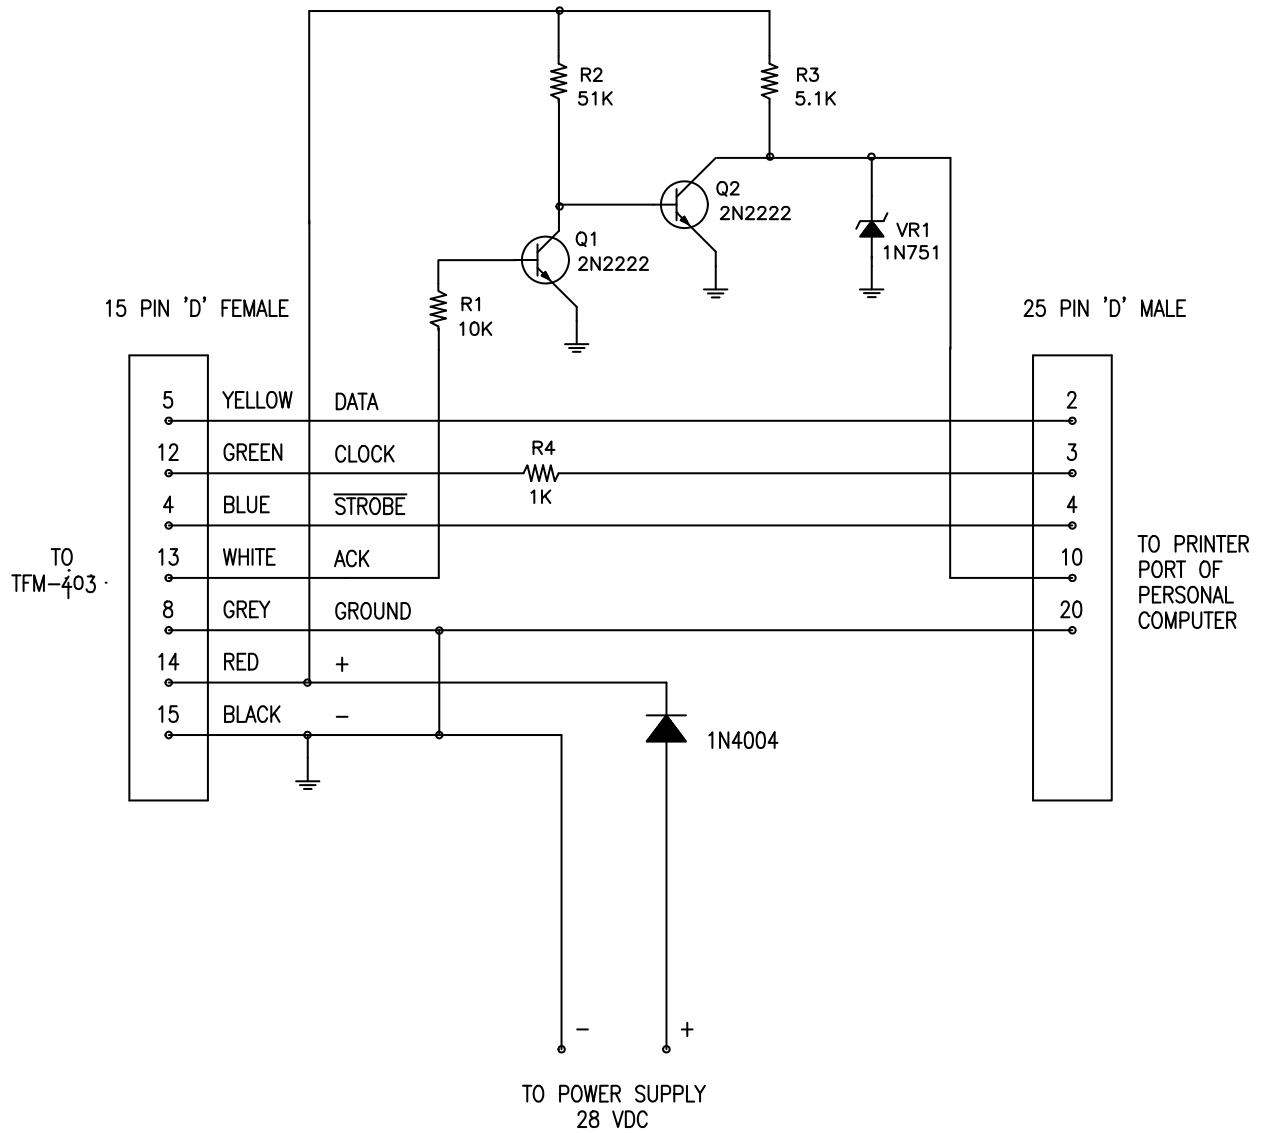

FIGURE 2-2 TFM-403 Transceiver PC Up/Download Cable - wiring diagram
Do not use cable P/N 943165-4 which is shown in FIGURE 2-2. It is for use with the DOS-program only.
3. PC Download cable (P/N 943165-4) see FIGURE 2-2.